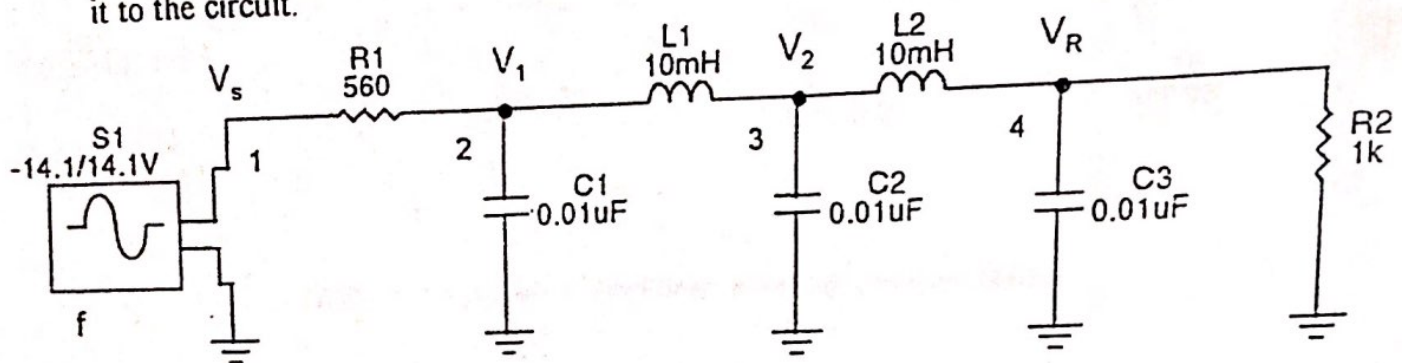

Figure 3. Transmission Line Approximation Circuit Excluding Resistance.
- 1.) Construct the circuit shown in Figure 3. Use the inductor substitution boxes in the lab for the inductors. Set the function generation output to a 10 Vac rms sine wave and connect it to the circuit.
- 5.) Solve for the voltages in Figure 3 with $f=5000$ Hz using nodal analysis. Enter these values into Table 4. Note the differences in the measured and calculated voltages and try to explain the differences in the report discussion.
- 6.) Enter the schematic of Figure 3 into the Pspice simulation software provided and find the magnitudes and phase angles of V_s , V_1 , V_2 , and V_R . Find the phase angles from the transient analysis plots by measuring the time difference between the positive going zero crossing of V_s and the other voltage waveforms. Use the formula presented above to calculate the phase angle. Enter these values in Tables 5-7 for each of the test frequencies.